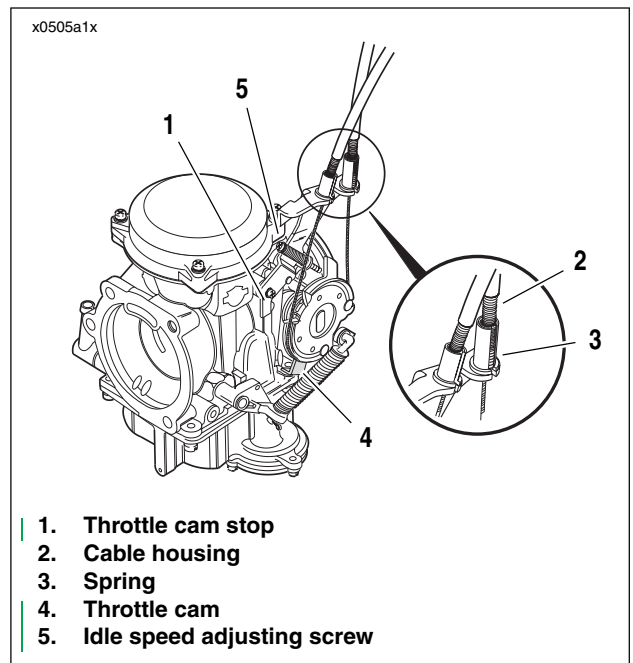

Figure 5-3. Carburetor adjustments
See Figure 5-3. Set engine slow idle speed of 950 RPM with engine running at normal operating temperature and with enrichment control knob pushed in fully. Turn carburetor idle speed adjusting screw (5) clockwise to increase speed, or counterclockwise to decrease speed.